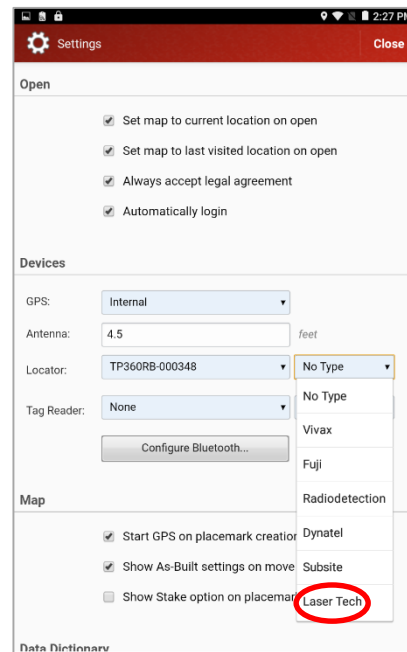

Figure 6
6. Under the pull-down list for **Type**, choose Laser Tech (Figure 6)